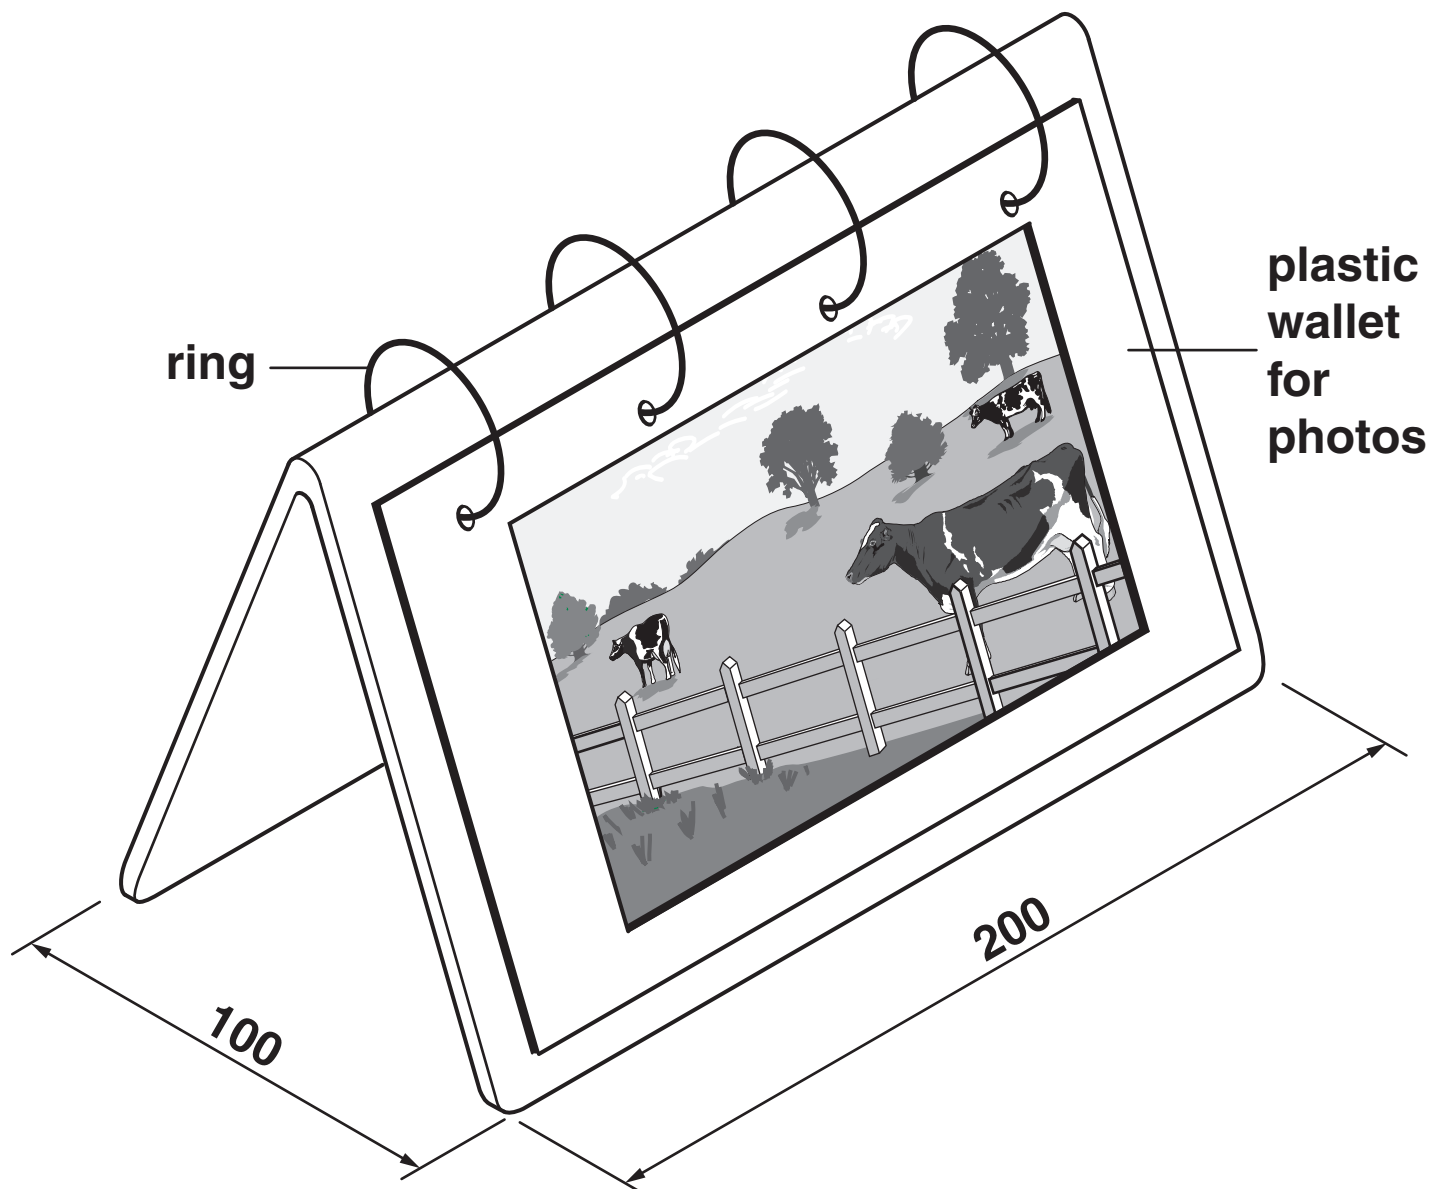

Fig. 3
- 2 Fig. 3 shows a photograph holder made from 5 mm thick acrylic.